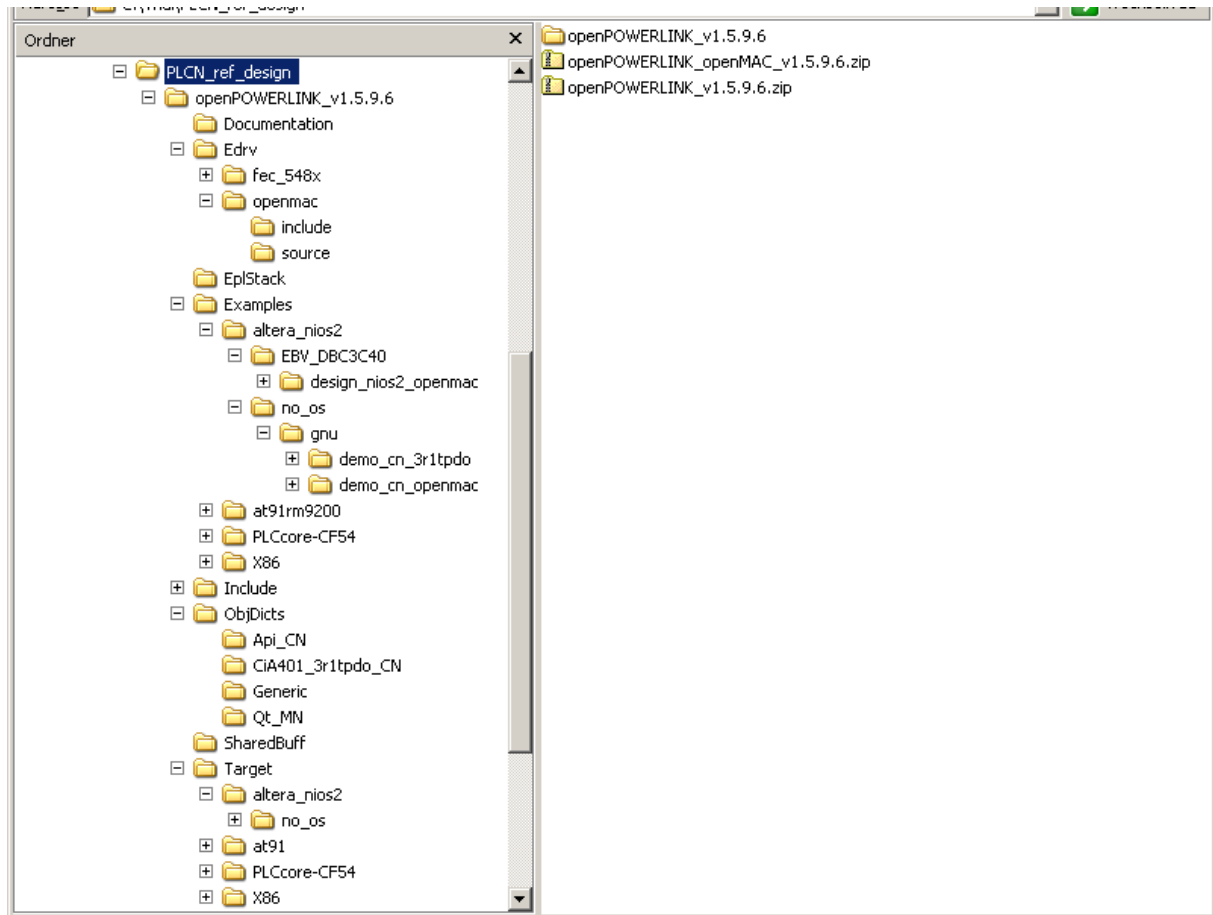

Figure 5-1: reference design directory
3. Compare **MYROOT** with the in Figure 5-1 given structure.